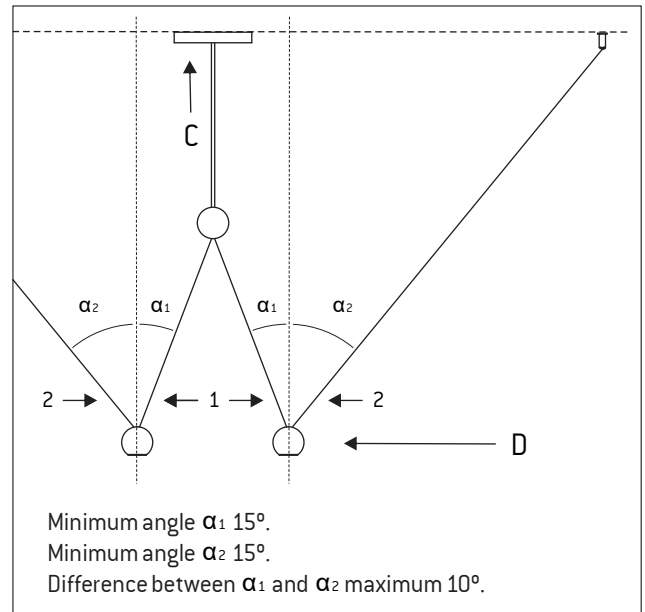

Figure 2
Attention: For the shade (D) to be straight, there must be a minimum angle of 15° above the vertical. Between cable 1 and the center of the shade at least 15°, and between cable 2 and the center of the shade at least 15°. The difference between the angles (α_1 and α_2) should not exceed 10°. The canopy can also be installed to the wall as a wall light. Figure 2.